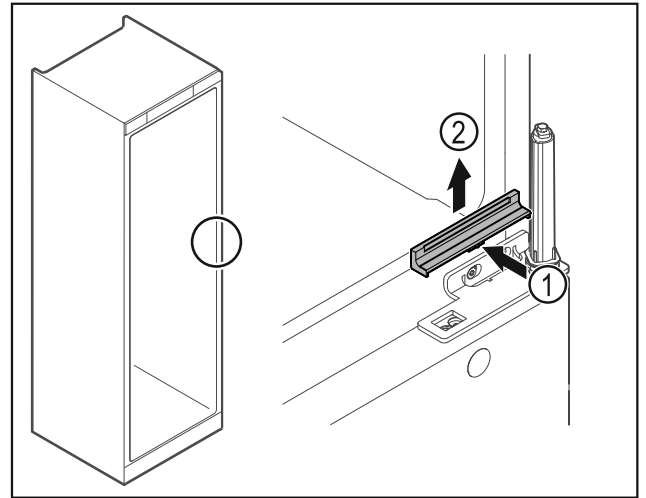

Fig. 30
- ▶ Gently press the middle of the cover Fig. 30 (1) and lift it off Fig. 30 (2).